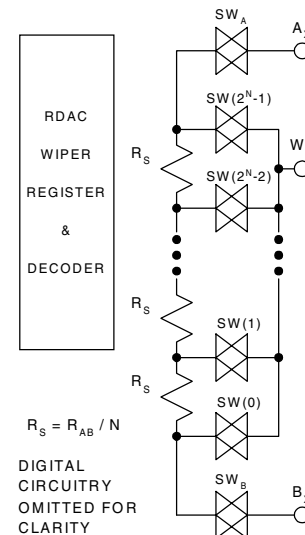

Figure 3. Equivalent RDAC structure
The actual structure of the RDAC is designed to emulate the performance of a mechanical potentiometer. The RDAC contains a string of connected resistor segments, with an array of analog switches that act as the wiper connection to several points along the resistor array. The number of points is the resolution of the device. For example, the AD5232 has 256 connection points allowing it to provide better than 0.5% set-ability resolution. Figure 3 provides an equivalent diagram of the connections between the three terminals that make up one channel of the RDAC. The SW_A and SW_B will always be ON while one of the switches SW(0) to SW(2^N-1) will be ON one at a time depending upon the resistance step decoded from the Data Bits. Note there are two 50 ohm wiper resistances, R_w. The resistance contributed by R_w must be accounted for in the output resistance. At terminals A-to-wiper, R_w is the sum of the resistances of SW_A and SW_x. Similarly, R_w is the sum of the resistances SW_B and SW_x at terminals B-to-Wiper.